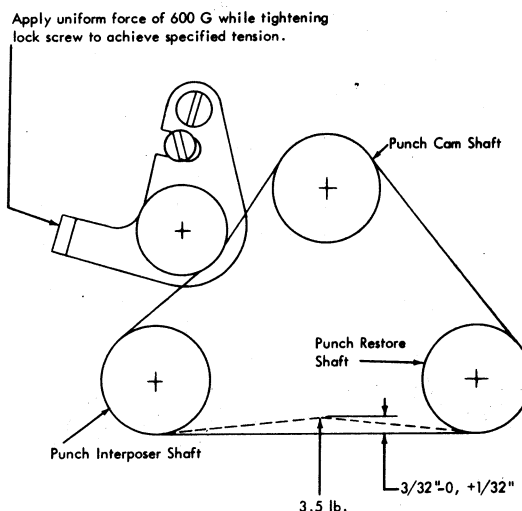

Figure 4-1. Drive Belt Adjustments
Refer to Figure 4-1 for belt tension specifications.
5. Tighten idler bracket. Make certain belt is meshed correctly on all pulleys and bracket is positioned vertically for proper belt tension (Figure 4-1).